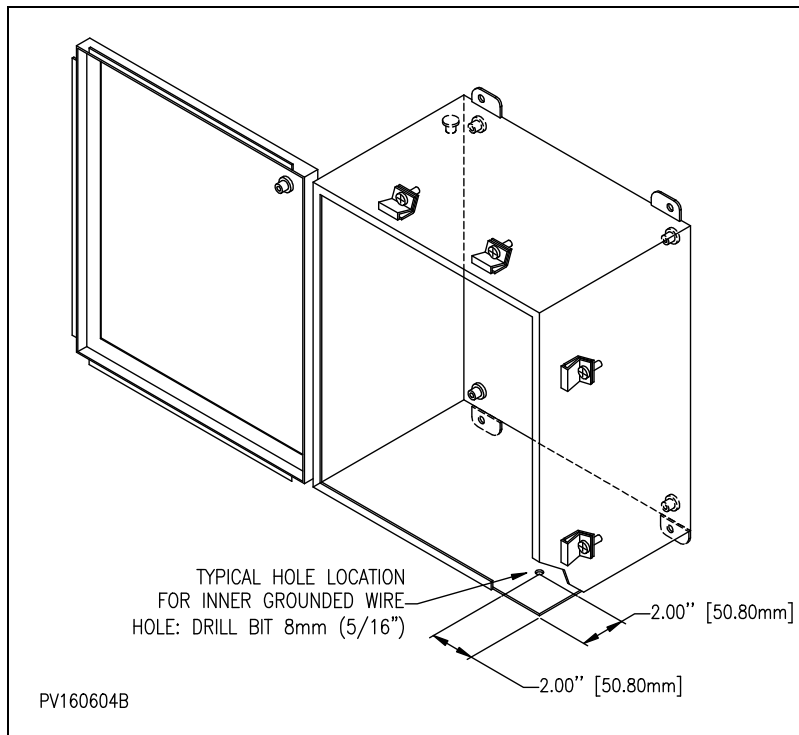

Figure 14 : Typical location for inner grounding wire
2. Drill a grounding hole inside the protection box according to Figure 14 : "Typical location for inner grounding wire".